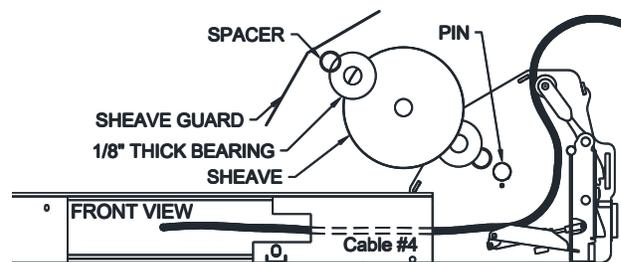

Fig 8 – Cable #4 Routing
- 7) Starting from the rear of the lift. Identify **Cable #4** using **Fig 4**. Route **Cable #4** from the left single stack through the access hole and up out the end of the crossbeam as shown in **Fig 8**.
- 13) Reinstall the crossbeam sheave for **Cable #3 and Cable #4**. Slide the sheave pin through the hole, slide one sheave spacer onto the pin followed by one 1/8" plastic bearing washer, and the sheave. Set the cable into the Sheave channel and proceed to adding a 1/8" plastic washer and sheave spacer to the pin. Install the 5/16 x 3/4 bolt to retain the sheave. Reinstall the sheave guards. See **Fig 8 & 13**.
- 32) Route **Cable #1** through the access hole and up and out the end of the Front Crossbeam in the same way **Cable #4** as shown in **Fig 8**
- 34) Reinstall the crossbeam sheave for **Cable #1 and Cable #4**. Slide the sheave pin through the hole, slide one sheave spacer onto the pin followed by one 1/8" plastic bearing washer, and the sheave. Set the cable into the Sheave channel and proceed to adding a 1/8" plastic washer and sheave spacer to the pin. Install the 5/16 x 3/4 bolt to retain the sheave. Reinstall the sheave guards. See **Fig 8 & 13**.
- 45) Reinstall the crossbeam sheave for **Cable #2**. Slide the sheave pin through the hole, slide one sheave spacer onto the pin followed by one 1/8" plastic bearing washer, and the sheave. Set the cable into the Sheave channel and proceed to adding a 1/8" plastic washer and sheave spacer to the pin. Install the 5/16 x 3/4 bolt to retain the pin. Reinstall the sheave guards. See **Fig 8 & 13**.